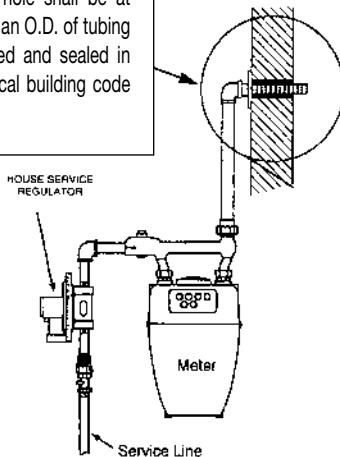
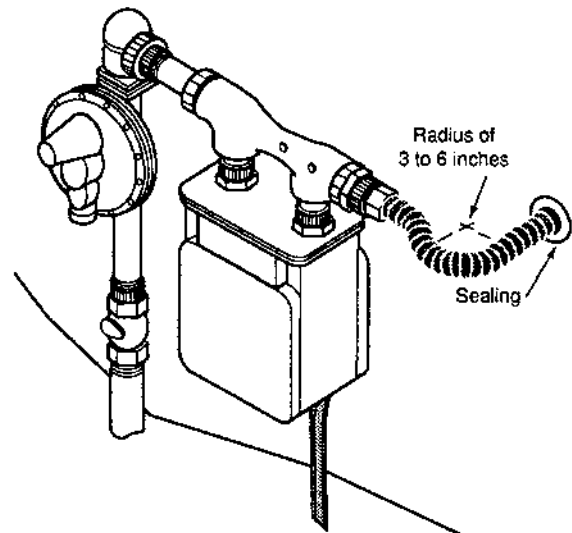

Figure: 4-23
Figure 4-25
1. Meters which depend on the service and house piping for support shall not be directly connected to the flexible piping. Instead, use a meter termination fitting or termination mount fitting with steel pipe for the outdoor portion of the connection. For mounting of meters, all fastener locations should be used when installing the flange or mounting plate. Figure: 4-23 and 4-24.
2. Meters which are independently supported with a bracket can be directly connected outdoors with **TracPipe® CounterStrike®** Figure: 4-25. If practical, direct connections shall include a 3 to 6 inch additional length of tubing to accommodate differential settling and meter movement. No mechanical protection of the tubing is required for outdoor connections. **NOTICE:** Prior to installing **TracPipe® CounterStrike®** directly to a meter, ensure that the local utility allows this practice and meter is independently supported as some utilities have regulations specifying meter attachments. Any exposed sections of stainless steel piping must be wrapped with a self-bonding silicone tape. This is especially important with masonry construction. Figure: 4-23–A sleeve is required for **TracPipe® CounterStrike®** penetrations of masonry construction and recommended for wood frame construction.